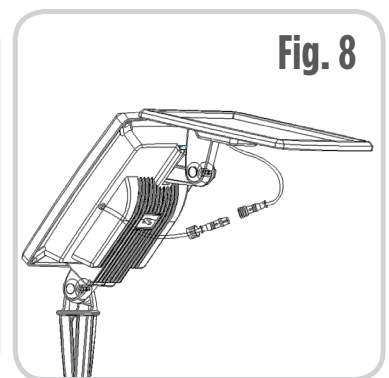

Fig. 8
- Insert Part B into the groove at the top of Part G **(Fig. 8)** with the tapered end of the wedge going into the lamp. NOTE: Push the part into the groove firmly so it does not easily slide out.
- Connect the solar panel and the lamp head cords together and secure using the screw connector. **(Fig. 8)**
- Insert Part C into the groove at the top of Part G with the tapered end of the wedge going into the panel (**Fig. 8**). **NOTE:** Push the part into the groove firmly so it does not easily slide out.